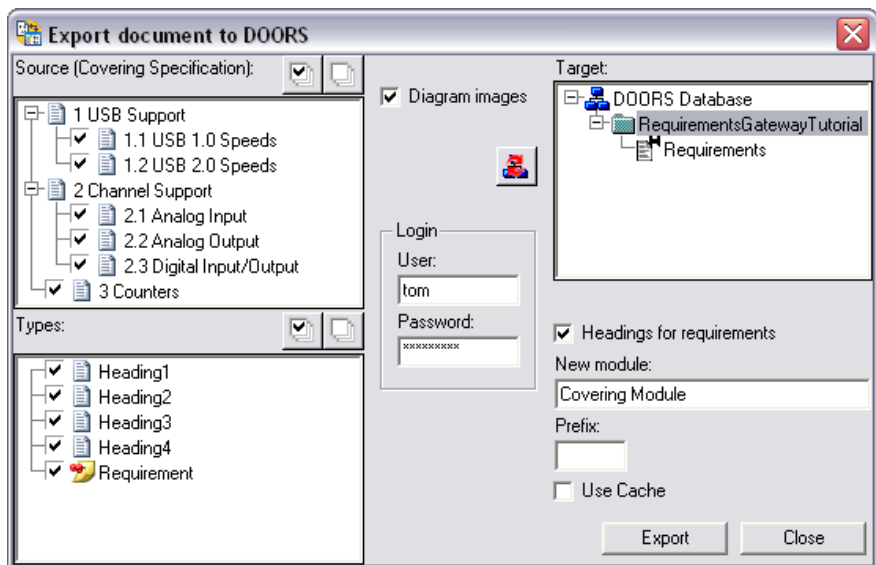

Figure 10-7. Export Document to DOORS Dialog Box
4. Enter `Covering Module` in the **New module** control, as shown in Figure 10-7.